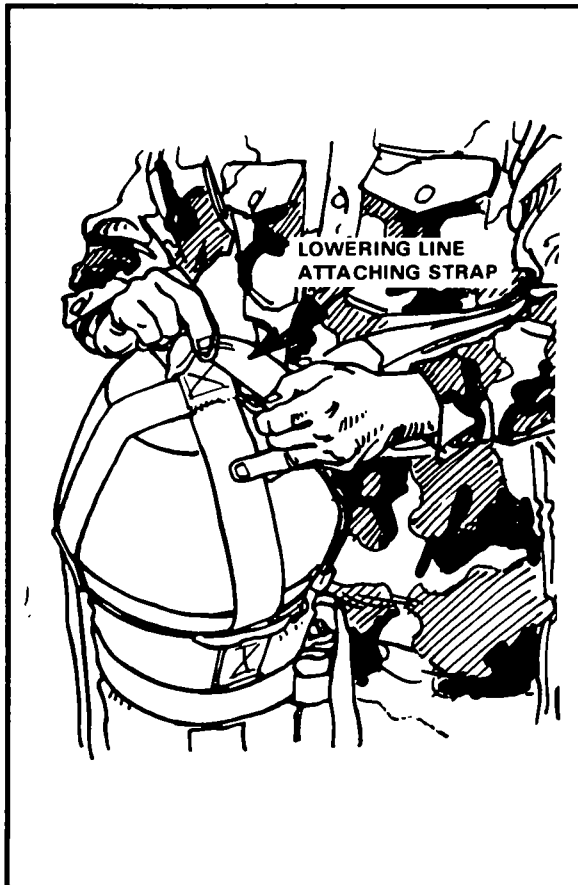

Figure 6-37. Lowering line attaching strap installed.
(3) If not already installed, attach the lowering line attaching strap to the launcher aft end bridle by means of a girth hitch with the large loop end (Figure 6-37). Run the small loop end through the large loop end and tighten (run the small loop end toward the lowering line stow pocket).